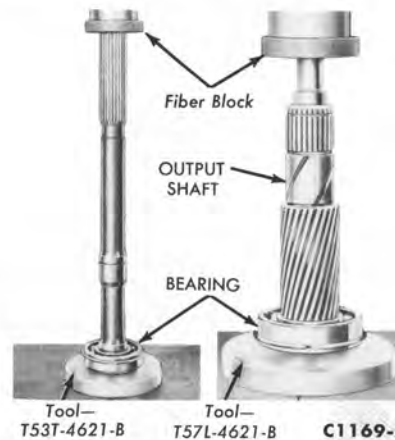

FIG. 8—Output Shaft Bearing Replacement
14. Remove the snap ring securing the output shaft bearing. Remove the bearing as shown in Fig. 8.
Fig. 8 and install the snap ring on the shaft.